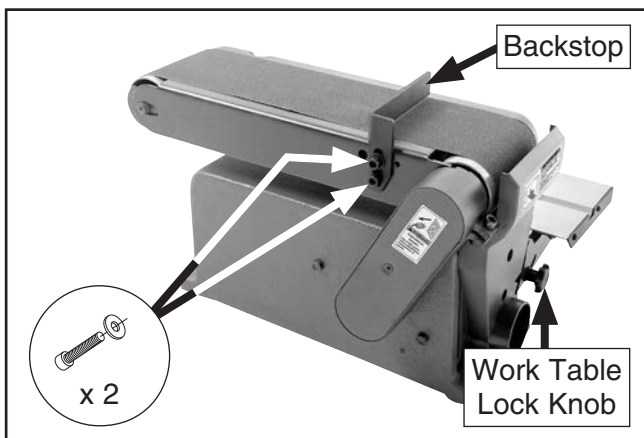

Figure 21. Backstop removal.
2. Loosen and remove (2) M8-1.25 x 16 cap screws, (2) 8mm flat washers, and backstop (see **Figure 21**).
3. Loosen work table lock knob (**Figure 21**) and remove lock knob, washer, and work table from sanding disc.